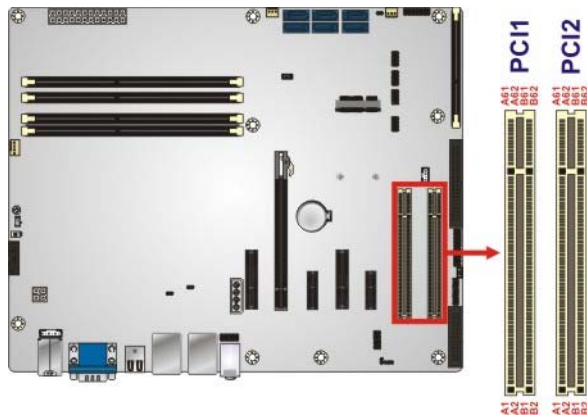

Figure 3-21: PCI Slot Locations
- CN Location:** See **Figure 3-21**